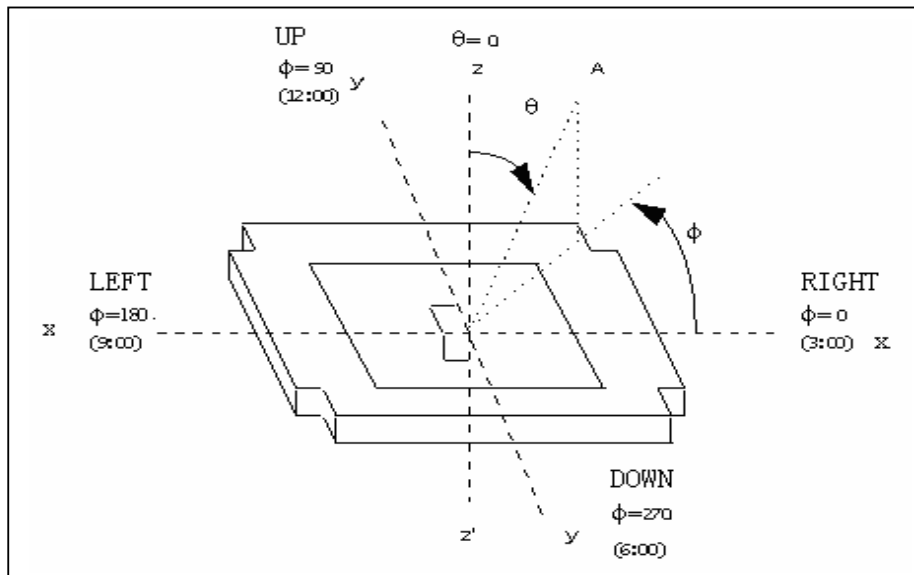

**FIG.2. Measuring method for Contrast ratio, surface luminance, Luminance uniformity, CIE (x, y) chromaticity**
Note 1. Contrast Ratio(CR) is defined mathematically as For more information see FIG 2.:
Note 2. Surface luminance is the LCD surface from the surface with all pixels displaying white. For more information see FIG 2.
Note 3. The uniformity in surface luminance,  $\delta$  WHITE is determined by measuring luminance at each test position 1 through 5, and then dividing the maximum luminance of 5 points luminance by minimum luminance of 5 points luminance. For more information see FIG 2.